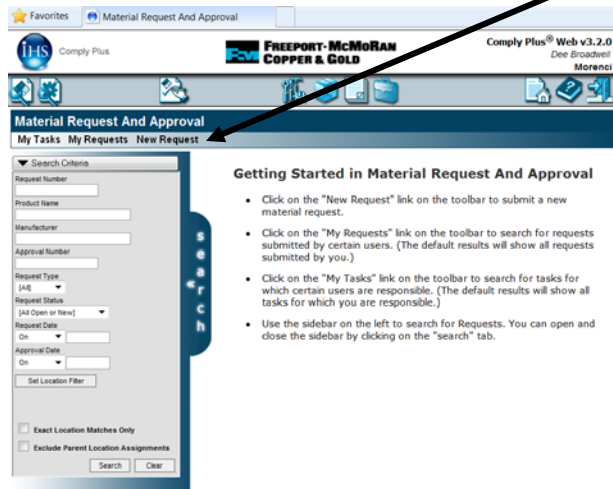

Figure 7
2. The MRAP Main Page appears. Click on “New Request” on the menu to activate the new entry page. (see Figure 7)